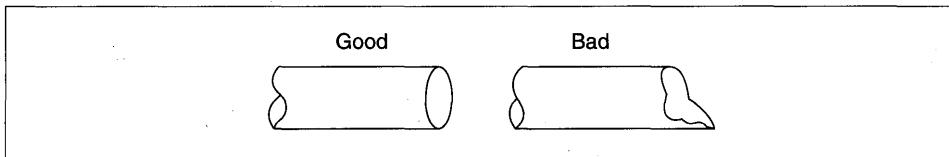

Figure 5-1: Processed Fiber-tip Examples
- (iv) Hold the fiber tip with a pair of tweezers and bend to snap, then expose the clean surface. When the surface of the fiber cannot be snapped flatly, try again (figure 5-1). Be careful when processing a fiber; the extremely thin core of the fiber may easily pierce human skin.